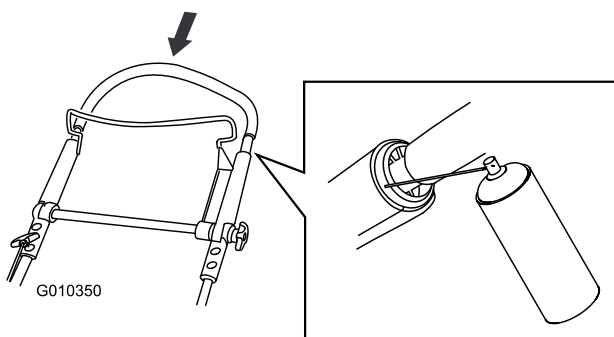

Figure 19
2. Push the upper handle fully down and spray the inner plastic surface of the outer handle (Figure 19).